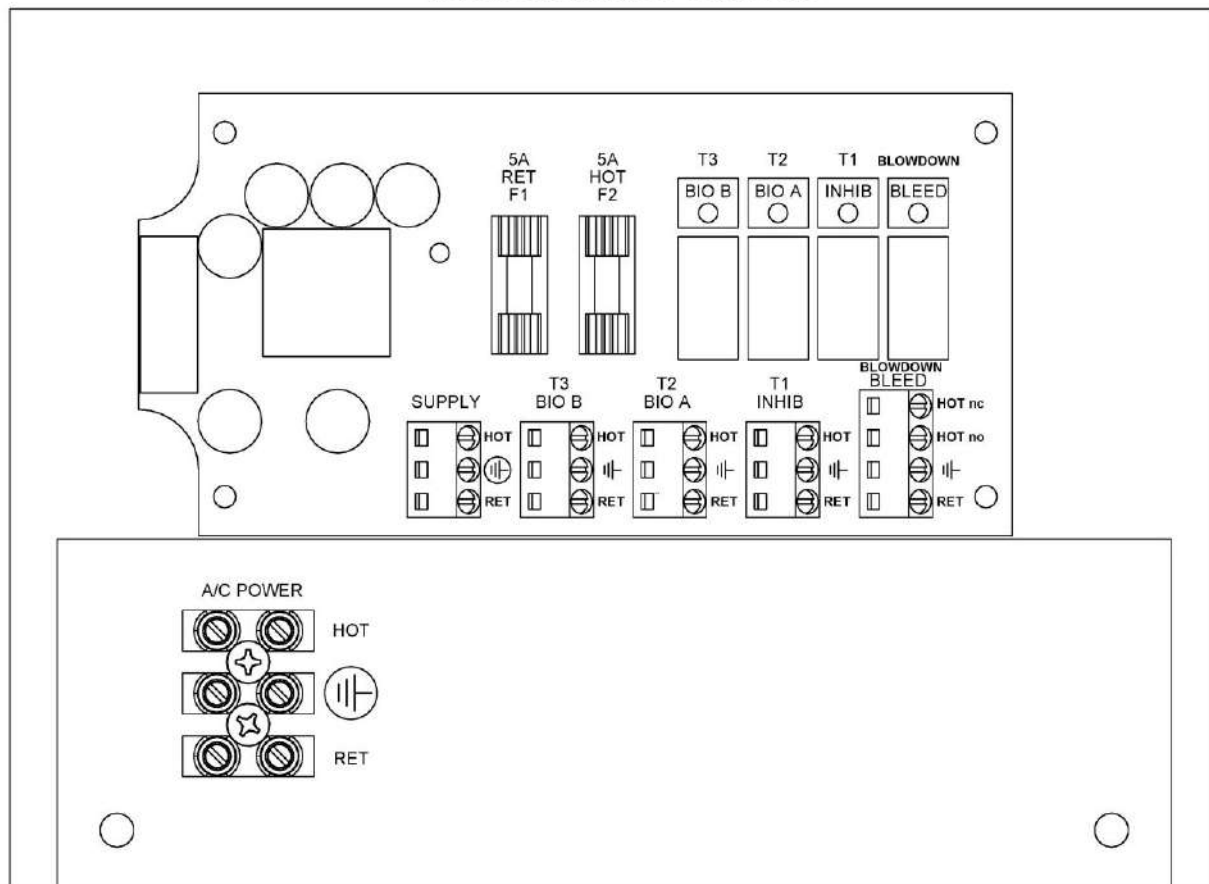

Fig. 6
The *MicroVision* electronic input circuitry is fuse protected on both the hot and neutral inputs using a replaceable five-amp fuse (*Fig .6*).
Conduit controllers have openings for conduit connections for hard wiring. (See Fig. 6) for input and output power connections. Use only 18 AWG (1,2 mm2) stranded wire for conduit power and load connections. Supply (input) A/C power is connected via the terminal block located on the back panel marked "A/C Power" (Fig. 6). The top part of this terminal block is removable to allow for easy access to the connector's three (3) screws.